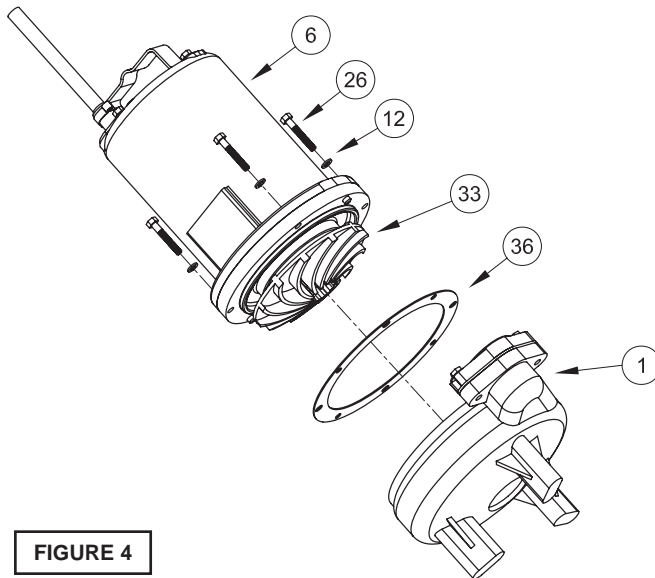

FIGURE 4
To clean out volute (1) or replace impeller (33), disconnect power, remove hex bolts (26), and lockwashers (12), vertically lift motor and seal plate assembly from volute (1) and spacer ring (31), see Figure 4. Clean out body if necessary. Clean and examine impeller (33), for pitting or wear and replace if required, inspect gasket (36) and replace if cut or damaged. If the impeller (33) needs replacing, place a flat screwdriver in the slot of the end of the shaft to hold the shaft stationary while unscrewing the jam nut (66) and impeller (33).
To clean out volute (1) or replace impeller (33) or U-cup (57), disconnect power, remove hex bolts (26), and lockwasher (12), vertically lift motor and seal plate assembly from volute (1), see Figure 4. Clean out body if necessary.